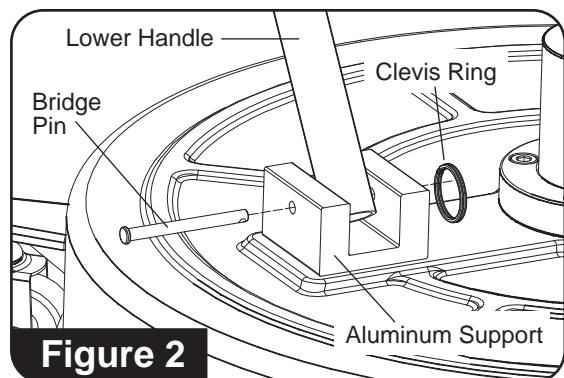

Figure 2
1. Place the lower handle assembly inside of the aluminum support and line up the holes in the lower handle assembly with the holes in the aluminum support. Insert the bridge pin through outside hole of the aluminum support and through the lower handle and through the inside hole of the aluminum support. Attach the clevis ring onto the bridge pin. Repeat this step on the other side. **(See Figure 2)**